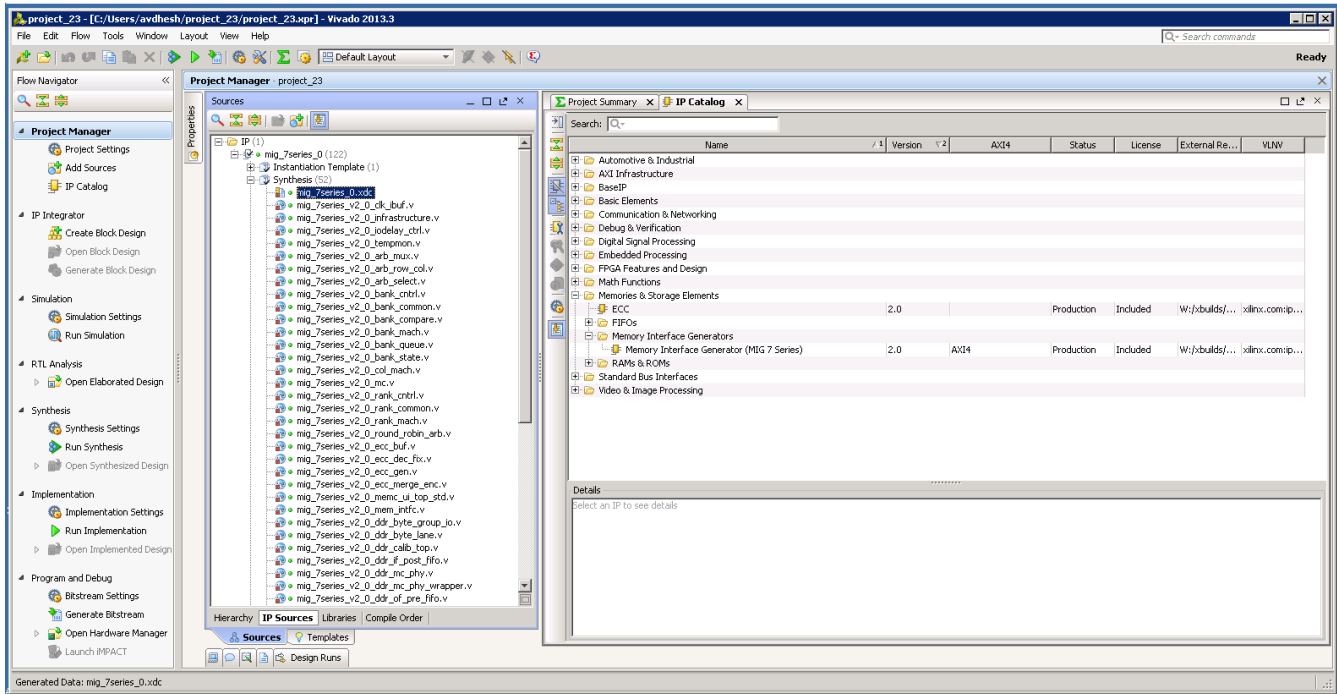

Figure 3-29: Generate RTL and Constraints
- All MIG generated user design RTL and XDC files are automatically added to the project. If files are modified and you wish to regenerate them, right-click the XCI file and select **Generate Output Products** (Figure 3-29).